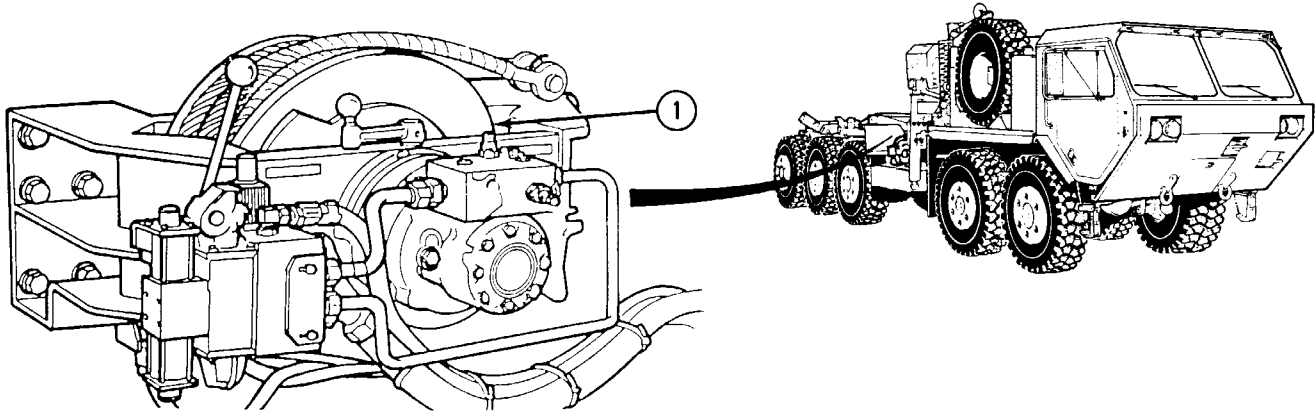

Figure 1-19. Self-Recovery Winch (SRW)
When specified, the truck is equipped with a winch (1) (Figure 1-19) for self-recovery capable of forward and rearward deployment. The winch is equipped with a holding brake and hydraulic counter-balance valve to safely deploy and hold the full rated load of the winch. The winch brake is automatic and is fully engaged anytime the winch is stopped or not in use and is fully released during operation. The winch cable is equipped with a clevis end and roller assemblies are provided to guide the cable. The winch is controllable from the driver's position and at the winch itself. All controls revert to neutral when released.